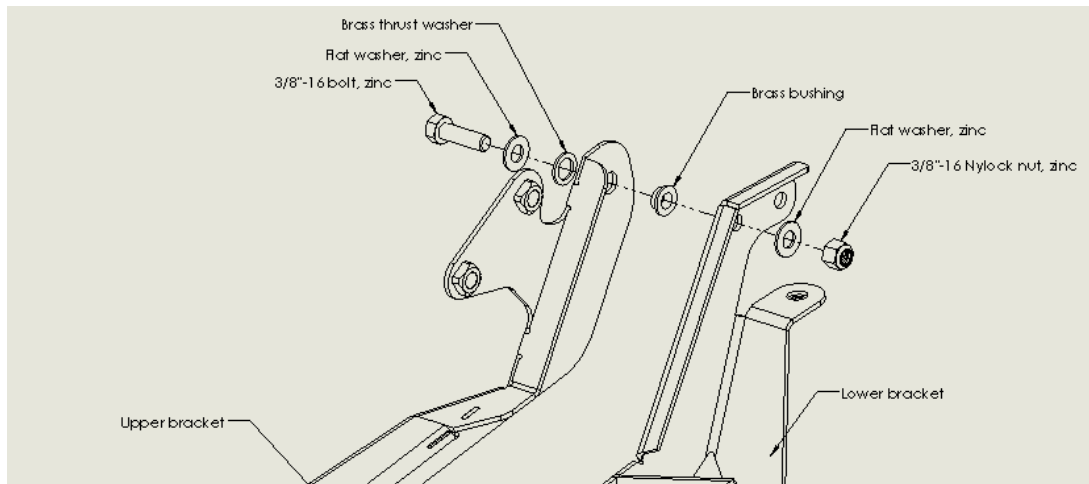

Fig 9
- Press install the brass bushing into the upper hole in the Upper arm as shown in **Fig 9**.
- g. Insert the 3/8"-16 bolt with washer and thrust washer into the brass bushing as shown in **Fig 9** forming the upper arm sub assembly.